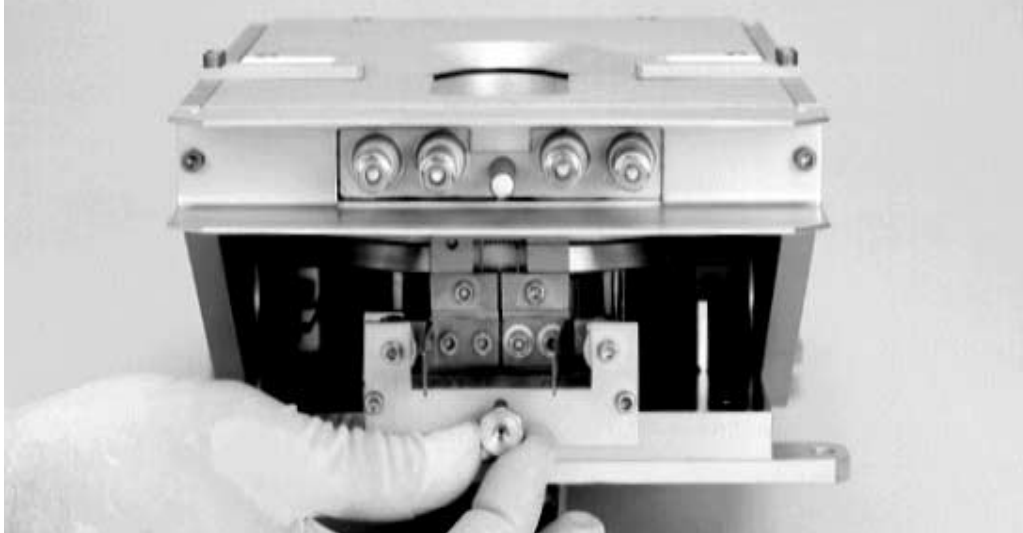

Figure 6-6. Removing the emitter assembly
Step 6: Remove the emitter assembly, if you have not already done so. First remove the knurled nut that secures the emitter to the source baseplate, as shown in Figure 6-6. Then remove the emitter.